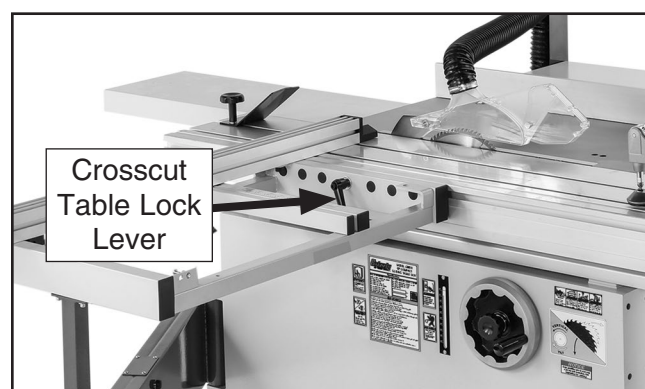

Figure 104. Location of crosscut table lock lever.
1. Move crosscut table and fence to front of sliding table, then lock them in place with crosscut table lock lever (see **Figure 104**).